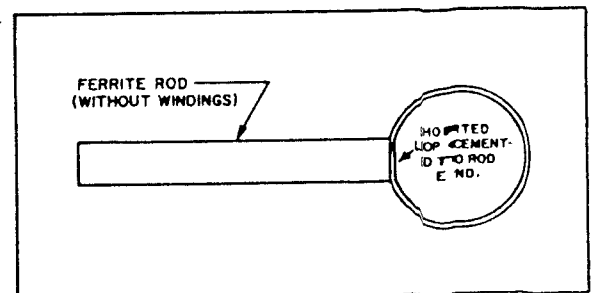

Figure 16. Test Loop Stick. Single (Shielded) Loop Of Wire Mounted On End Of Ferrite Rod. Loop Diameter, Wire Size, Or Ferrite Material Non-Critical.
(1) Open the AM ANTenna GND link at the antenna terminals. Connect an AM generator to the AM ANTenna and GND terminals.
(3) Connect a scope and an AC VTVM to either the LEFT or RIGHT RCDR OUT jack.
(4) Set AM generator frequency and MANUAL TUNING dial pointer to 600 kHz. Use 30% modulation with 400 Hz. Set generator output as low as possible.
(5) Align oscillator coil Z502 (on AM RF board) for maximum reading on AC VTVM and maximum waveform amplitude and symmetry.
(6) Set AM generator frequency and MANUAL TUNING dial pointer to 1400 kHz. Adjust oscillator trimmer C535 (on AM RF board) for maximum reading on AC VTVM and maximum waveform amplitude and symmetry.
(7) Repeat alignment several times until maximum gain and symmetry are obtained. Keep generator output as low as possible during all adjustments.
(8) Reset AM generator frequency and MANUAL TUNING dial pointer to 600 kHz. Align mixer coil Z501 and RF coil L501 for maximum reading on AC VTVM, and clean sine wave on scope.
(9) Reset AM generator frequency and MANUAL TUNING dial pointer to 1400 kHz. Adjust mixer trimmer C534, and antenna trimmer C533 for maximum audio indication on AC VTVM and clean sine wave on scope.
(10) Repeat steps (8) and (9) several times until maximum gain is obtained. Keep generator output as low as possible during all adjustments.
(11) Set MANUAL TUNING dial pointer to approximately 600 kHz. Tune to local noise, or weak station for tuning meter reading of approximately 2.5. Place loop-end of Test Loop Stick (see Figure 16) near end of receiver antenna. Observe tuning meter. Place ferrite core-end of Test Loop Stick near end of receiver antenna. Observe tuning meter. If tuning meter reading decreases when loop-end, or rod-end of Test Loop Stick is brought near receiver antenna, antenna circuit is correctly aligned.